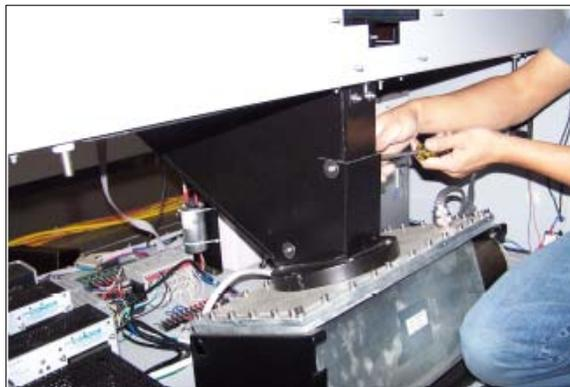

Figure 203: Removing Funnel Cover Mounting Screws
7. Remove the four screws that secure the funnel cover to the funnel assembly (Figure 203).